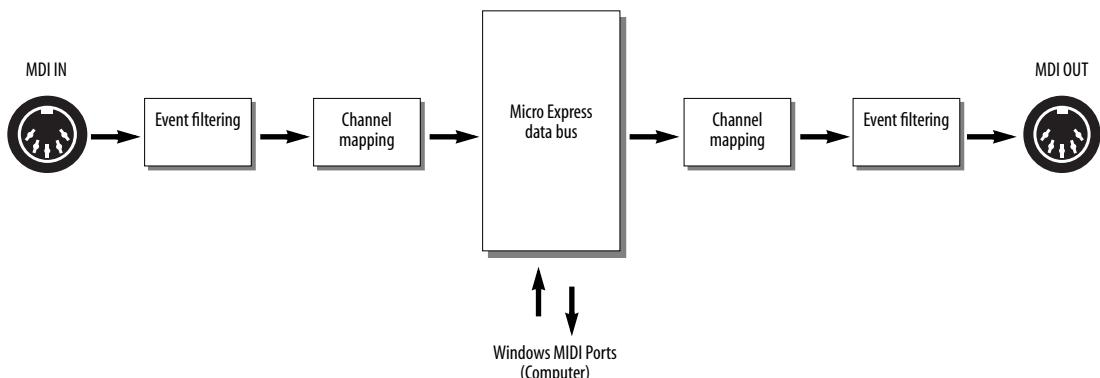
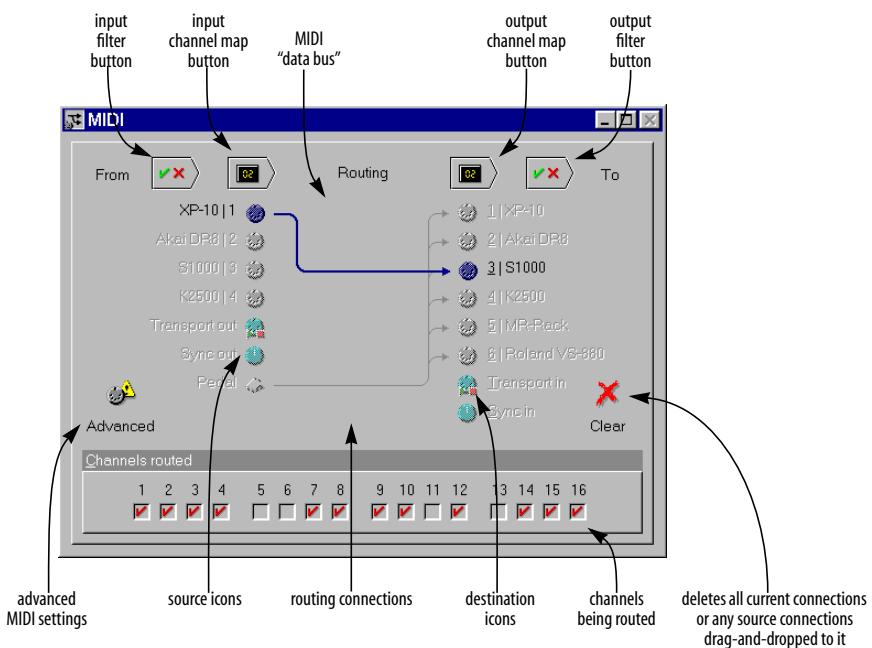

Figure 6-5: Micro Express internal MIDI data processing sequence.
Figure 6-7: The MIDI Routing window with a source and destination selected.
Before going any further, it is important to understand how the Micro Express performs its MIDI processing, specifically the order in which each type of processing is applied. Figure 6-5 illustrates how the Micro Express processes MIDI data as it travels from one interface input port to one interface output port.
As for data arriving and leaving your computer via the included Windows MIDI driver, imagine it coming a going from the Micro Express data bus as shown in Figure 6-5. All channelizing and filtering is applied before the input data arrives at any software input port and after it is sent from any software output port. This is a great advantage as it frees up your computer and MIDI software from having to deal with the mundane (and time-consuming) chore of such processing. Just configure your Micro Express and let it do all the work!
The processing sequence described in Figure 6-5 on page 34 is conveniently represented in the layout of the MIDI Routing window. The MIDI data flow proceeds from left to right. MIDI inputs, or *sources*, are represented on the left by the input port and clock (for MIDI Time Code converted from SMPTE) icons. MIDI outputs, or *destinations*, are represented on the right by the output port icons. Port-to-port routings are represented by extended arrows going from sources to destinations. The processing options (filtering and channelizing) are represented by the four buttons along the top of the window. You can clearly see the logical processing order with this layout as shown in Figure 6-7.
Routing is as simple as dragging a source icon with the mouse and dropping it on a destination icon. When making port-to-port connections, the Console will route all 16 MIDI channels from the source to the destination (as is the case in Figure 6-7 on page 35). You can freely edit the routed channels later by altering the Channels routed check boxes while the source and destination are selected (see “Selecting individual sources and destinations” on page 36).
You can also open the Advanced MIDI window by clicking the Advanced button in the lower left-hand corner of the window as shown in Figure 6-7 on page 35.
**2** With the port selected, click on the channel map button above the selected port as shown in Figure 6-7 on page 35.